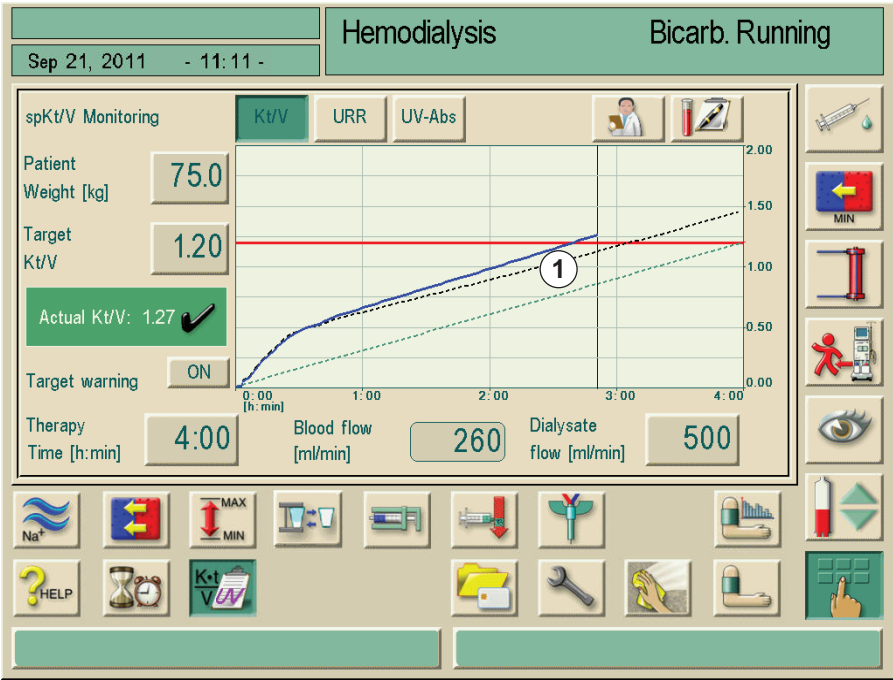

Fig. 11-20 Display of the black dashed progress line
1. By touching one of the displayed therapies the screen showing the black dashed progress line (Fig. 11-20, 1) opens: